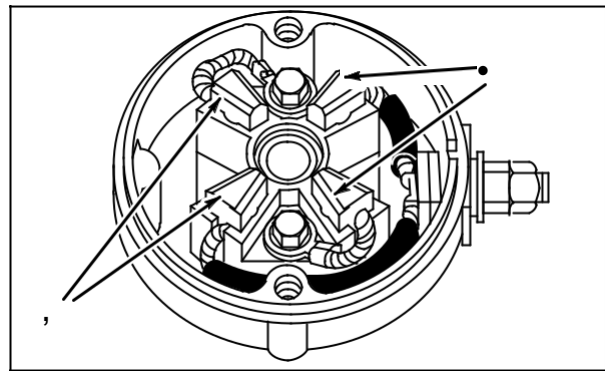

Fig. 20
Refer to **Fig. 20** for axial compression spring end caps and for the correct location of positive brushes (1), negative brushes (2), brush leads and wire routing. Note order of assembly for insulators, washers and screws or nuts.